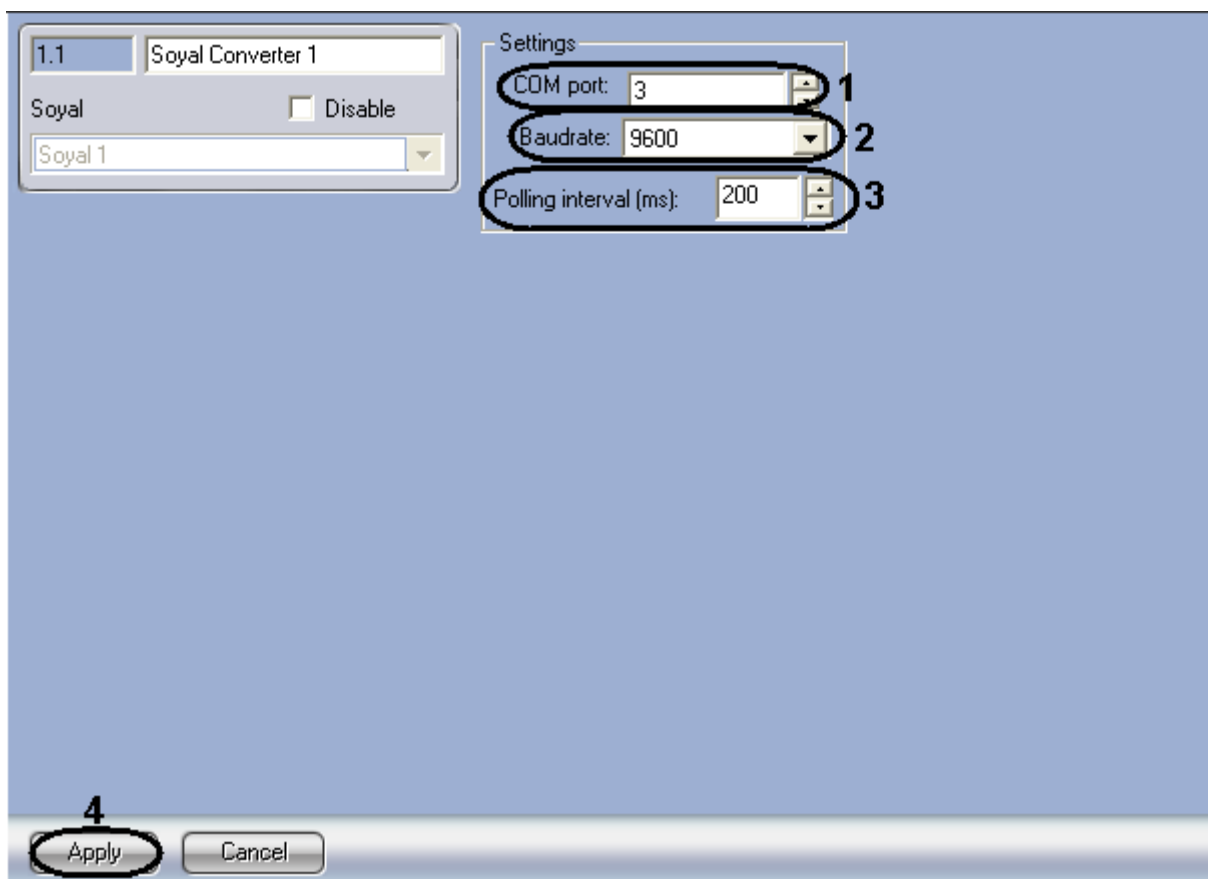

Figure 2.3—2 Settings of Soyal Converter
2. With the help of **up-down** buttons in the **COM port:** field set the number of the COM port used to connect controllers to the Server (Figure 2.3—2, 1).
3. From the **Baudrate**: drop-down list select the speed of controller's COM-port connection (Figure 2.3—2, **2**).